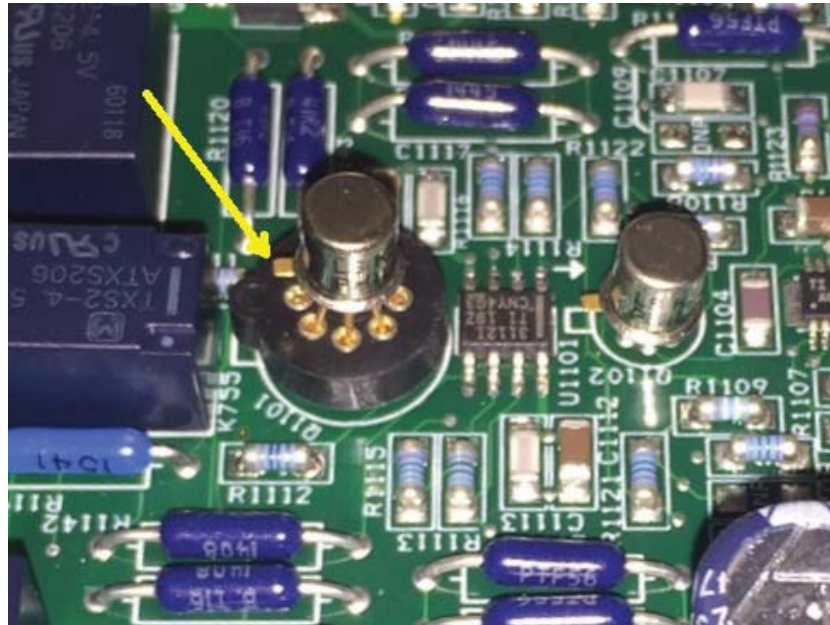

Figure 5.1: The front-end JFET (Q1101), installed.
4. Locate the input JFET, marked as Q1101 on the main circuit board. You can find Q1101 directly behind the A/I and B inputs, about 5 cm back from the edge of the board. Q1101 is socketed, as shown in Figure 5.1. Using your thumb and forefinger, carefully remove the JFET.
5. The replacement JFET will be installed in the same socket. Please note that two of the socket positions, aligned with the front and back of the instrument, are left unpopulated. It is important that the pins of the new JFET all be seated correctly in the remaining positions. Refer to Figure 5.2 for the unpopulated positions. When fully seated, the JFET should look like Figure 5.1.